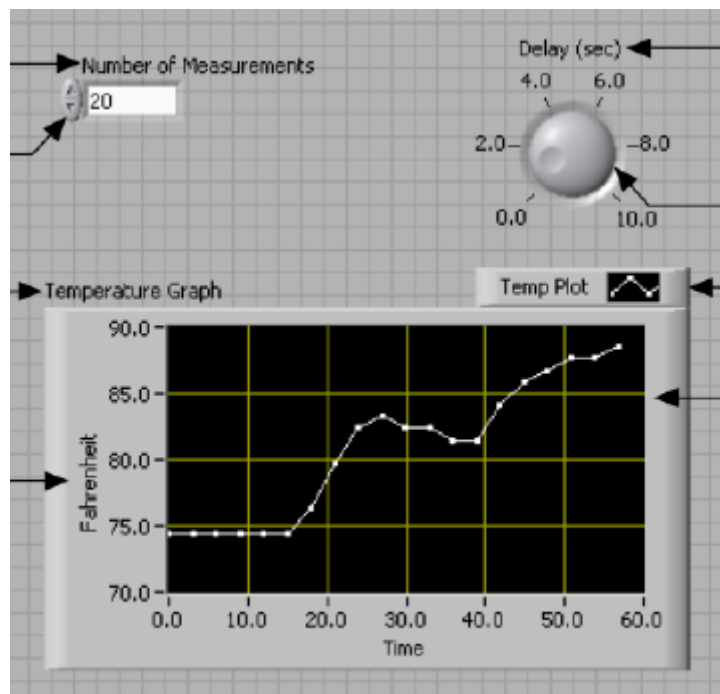
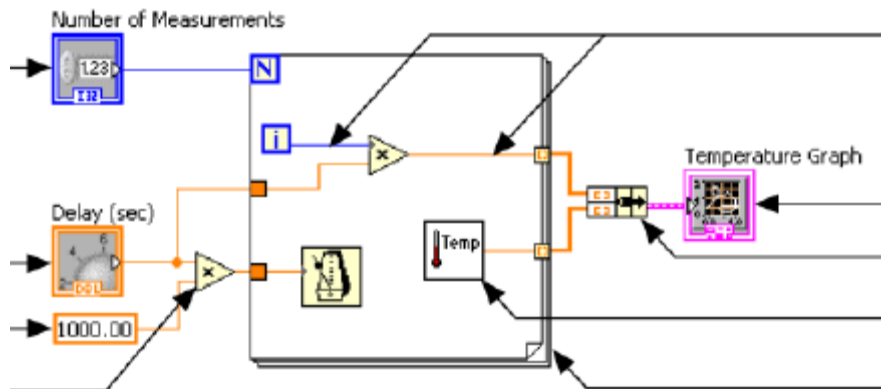

Figure 1. Enhanced temperature VI. Front panel.
Figure 2. Enhanced temperature VI. Block diagram
4. Start a new VI. Copy the code from figures 1 and 2. In figure 2, the icon with a thermometer is your sub-VI.